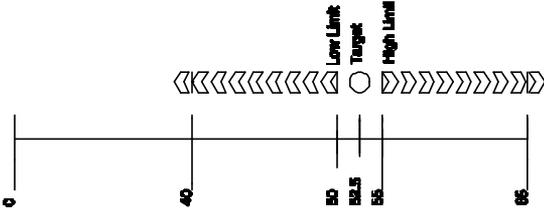

Figure 3-2: Example #1 Bargraph Segments (Weighted Value)
**Example#1: "ChecP"** (refer to *Figure 3-2*)